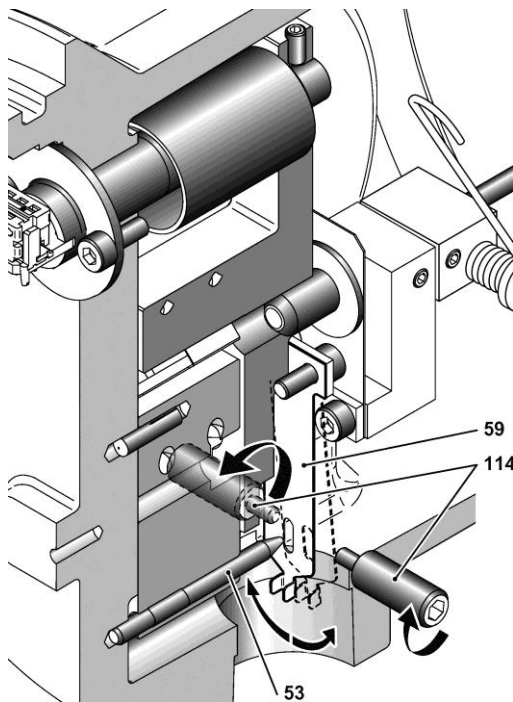

Figure 17
- a. Open the access plug (107) on the right side of the case to look at the simulation mechanism. Remove plug (190) and the two 1/8" NPT plugs (115). Use a 5 mm Hex wrench.
- b. Simulate level variations by moving the flexure (59) in the direction of the torque tube until the flexure touches the adjusting screw post (114).
- c. While maintaining contact, slide the flexure left or right along the surface of the screw post (figure 17) to simulate low and high level values of the process fluid(s).